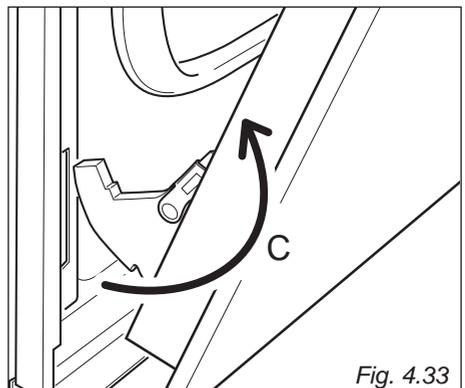

Fig. 4.33
- Withdraw the hinge hooks from their location following arrow "C" (fig. 4.33).